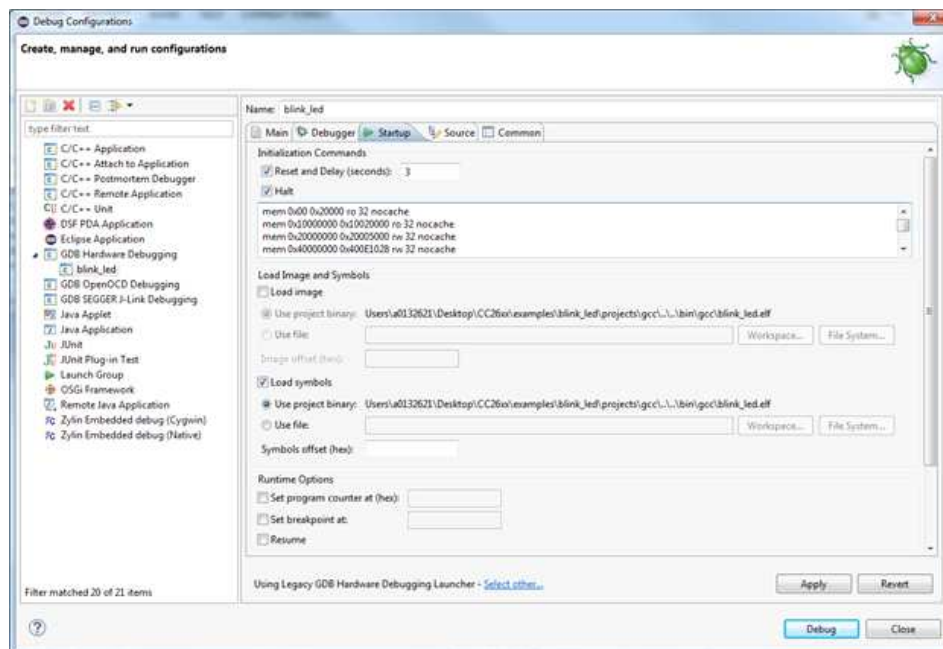

Figure 24. GDB Hardware Debugging – Startup Tab
7. Select the 'Startup' tab and configure the same setting as shown in Figure 24. Make sure that Load image is unchecked, and that the following commands are added in the Initialization Commands window: